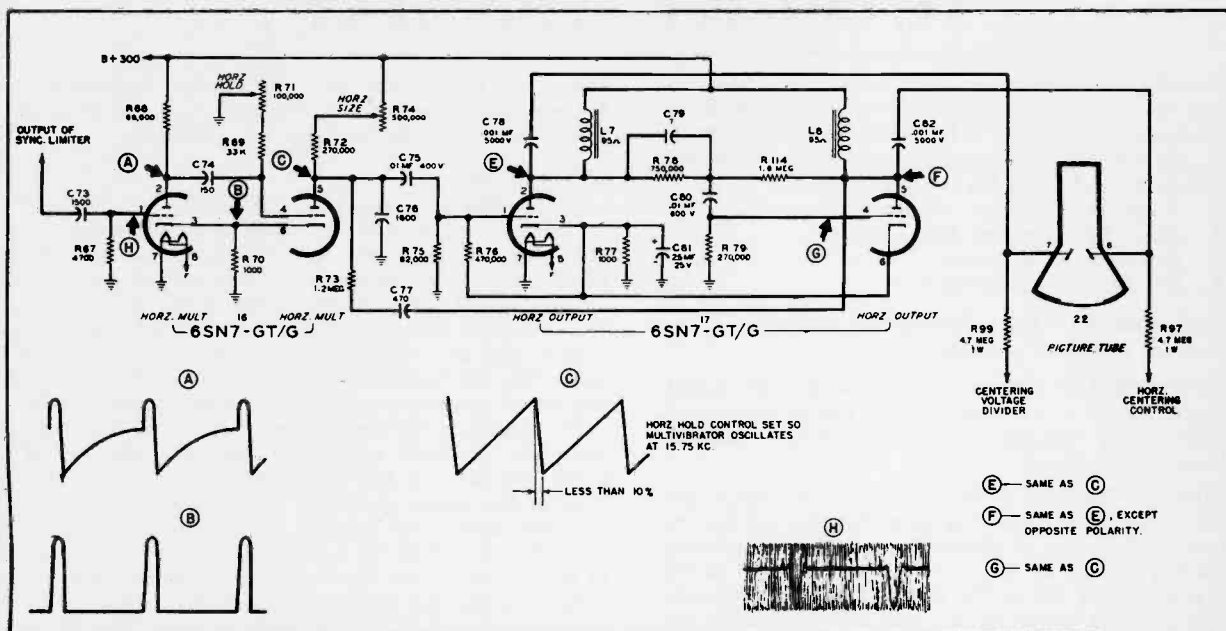

Figure 15. Horizontal Sawtooth Generator and Sweep Amplifier
The horizontal sawtooth generator (see figure 15) uses a type 6SN7 tube (16) as a conventional cathode-coupled multivibrator with a differentiating circuit, capacitor C73 and resistor R67, feeding sync pulses to the first grid (pin 1). The horizontal multivibrator can be easily adjusted with horizontal hold control R71 to sync at 15.75 kilocycles. The second plate of the multivibrator acts as a discharge tube across capacitor C76 to give a sawtooth output. A small change in the value of this capacitor C76 greatly affects the size of the sawtooth output. The value of sawtooth forming capacitor C76, with charging resistors R74 and R72, is such as to permit use of the linear portion of the charging curve. Changing the value of horizontal size control R74 changes the size of the picture horizontally.